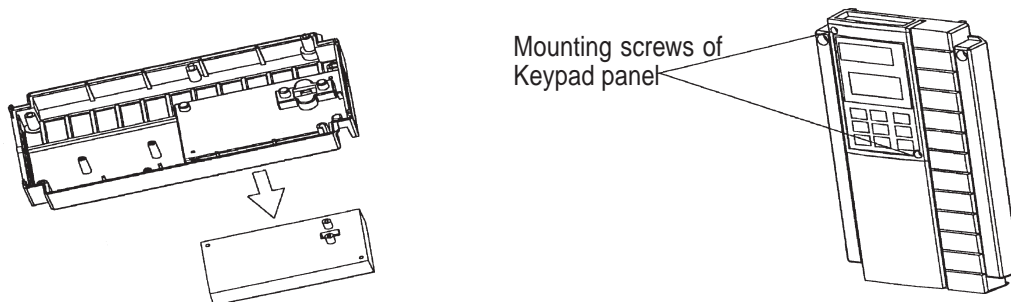

Fig.1-3-3 Removing the Keypad Panel (for drives 30HP or less)
After removing the cover as explained in (1), loosen the keypad panel mounting screws and remove as shown in Figure 1.3.3 for drives 30HP or less.